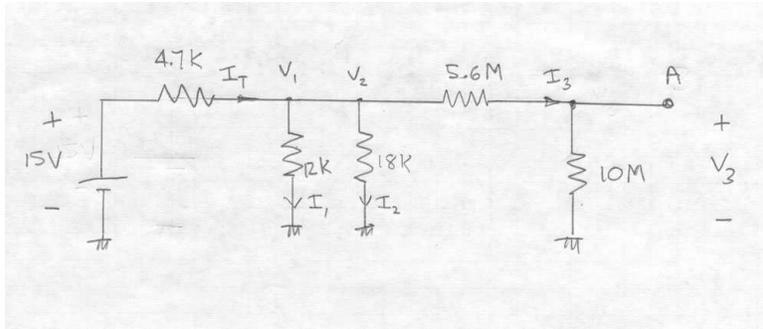

Figure 1: Circuit for Part 1.
Consider the circuit of Figure 1. Calculate the voltage values  $V_1$ ,  $V_2$  and  $V_3$ , and the current values  $I_1$ ,  $I_2$ ,  $I_3$  and  $I_T$ .
### 6.1 Circuit in Fig. 1
In this experiment we will consider the circuit in Fig. 1.
- **(1 mark)** Construct the circuit in Fig. 1, and measure the values that you computed in the pre-lab. Is there any discrepancy? If so, explain.